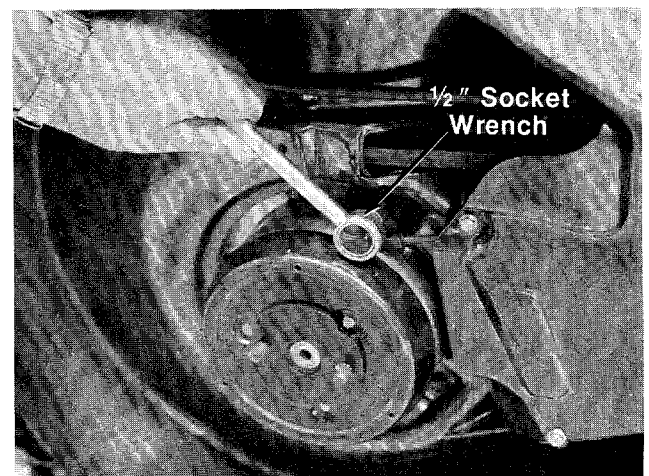

FIGURE 28.
9. Support the engine with one hand. Remove the three self-tapping screws which secure the deck and blade brake/clutch to the engine. A 1/2" socket wrench is required. See figure 28.